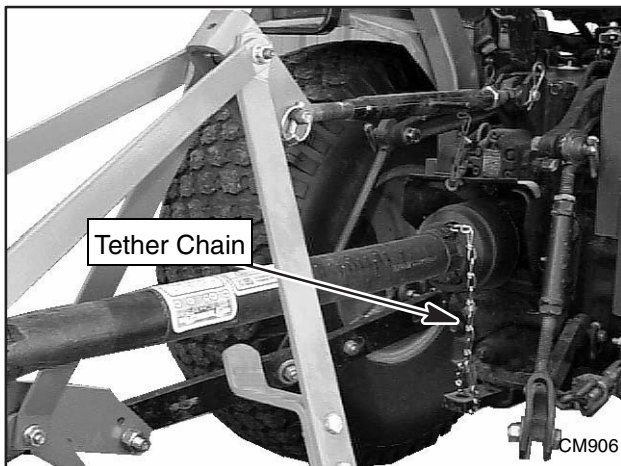

Figure 3. Attach Mower to Tractor
3. Attach tether chain to tractor drawbar (Figure 3).